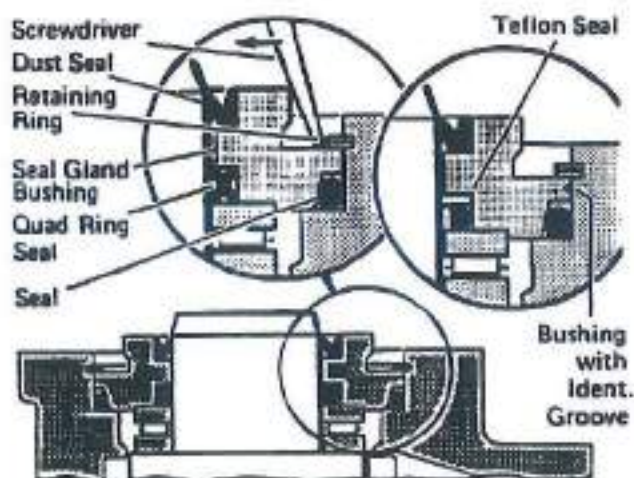

Figure 19
14. Install 1 1/4" diameter dust seal in seal gland bushing, flat or smooth side of dust seal must face down towards bushing, see Fig. 19.
15. Install the quad ring seal in seal gland bushing. Smooth seal in place with your finger. Do not use any seal that falls freely into pocket of bushing, see Fig. 19.